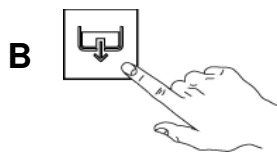

Fig.42
- 2- Press button “B” to start drain out the water and wait until all the water is completely drained out from the tank. (Fig.42)